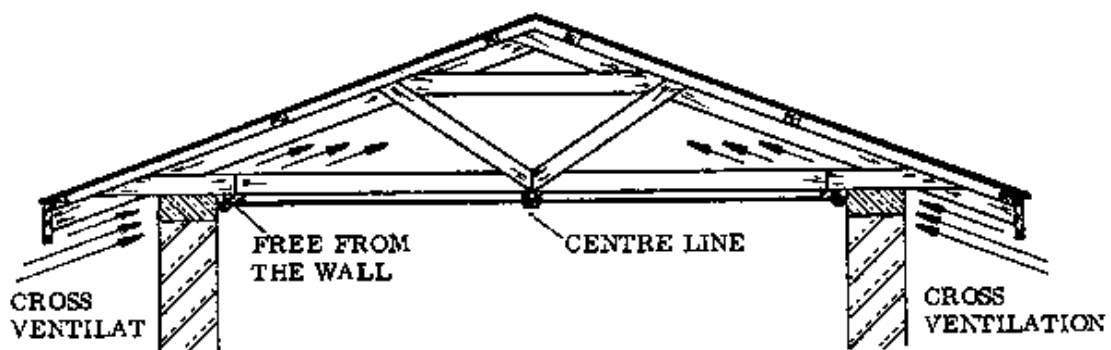

Fig. 2
Cross ventilation keeps heat from building up between the roof and the ceiling, and thus the rooms are cooler (Fig. 2).
- **INSTALLING THE PLYWOOD CEILING SHEETS:** Always start by fixing a line to show the exact centre of the room (Fig. 2, previous page). Start fitting sheets from this line. In case the sheets will not fit exactly in the room without being cut, start by putting one whole sheet in the centre of the ceiling, then divide the remaining space into equal areas.